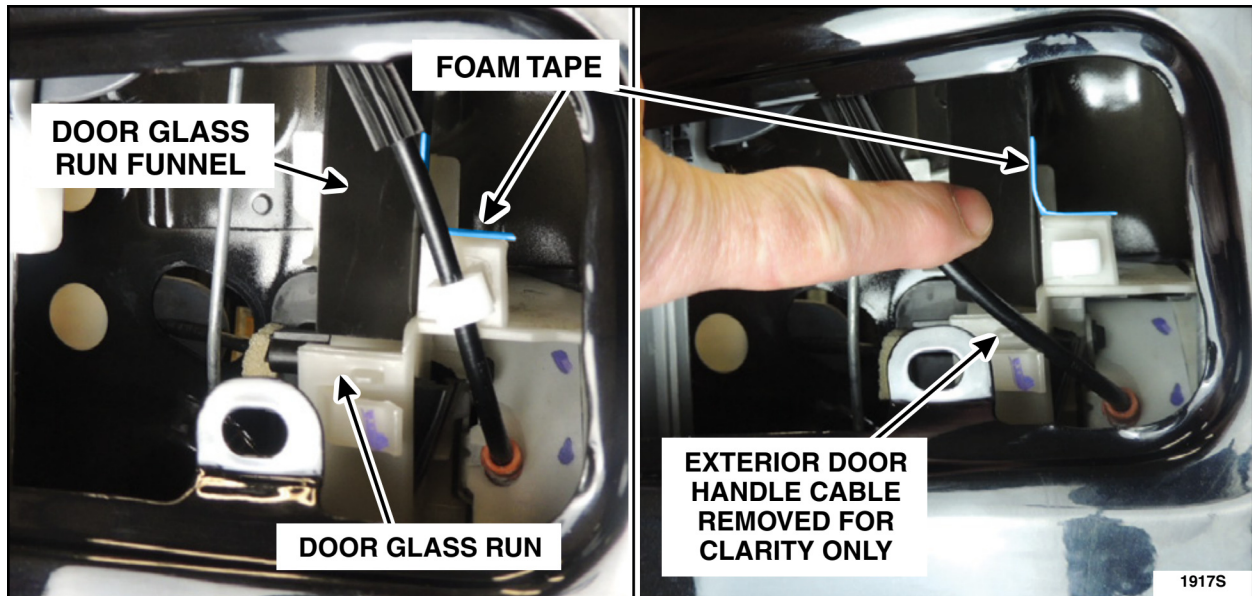

FIGURE 18
30. Using a clean shop towel and isopropyl alcohol clean the area where a *new* foam tape will be applied, from any dirt, dust or debris. Then, install a *new* foam tape in the location shown, from through the exterior door handle opening, to hold the funnel in place. See Figure 18.